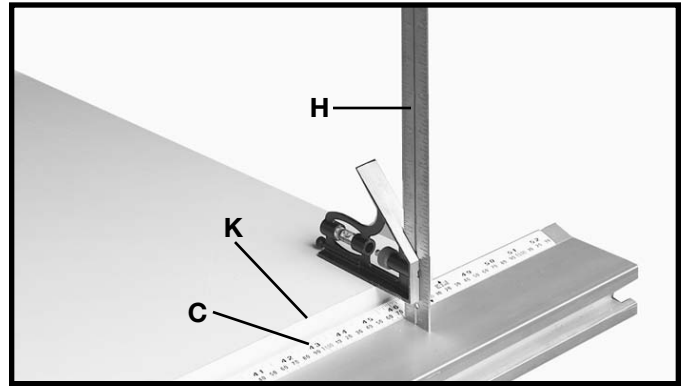
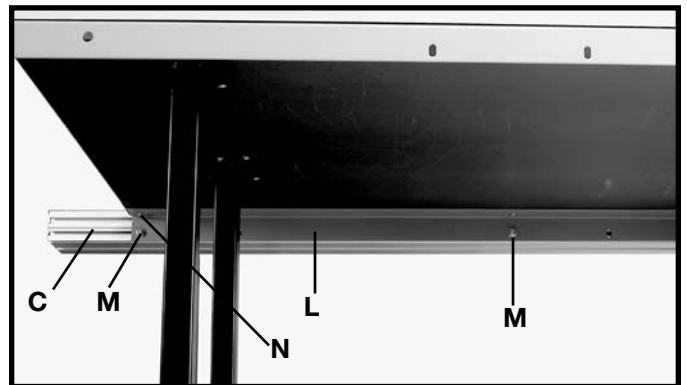

Fig. 58
Fig. 59
8. Move the square (H) Fig. 58, to the end of the Unifence table and check to make certain the same distance is maintained from the top surface of the extension table (K) to the top surface of the guide rail (C). Move the front table support (L) Fig. 59, against the guide rail (C), and tighten the 1/4-20 nuts (M). Tighten two wood screws, one of which is shown at (N) Fig. 59, that fasten the Unifence table to the guide rail support.